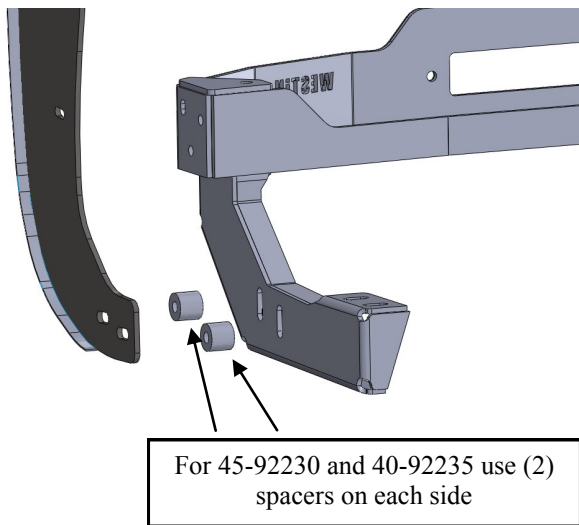

FIG 8
12. If installing the HDX winch tray grille guard, with assistance align the grille guard with the mounting holes located in the lower winch tray brackets and the winch tray. Use the included spacers between the lower mounting brackets and the grille guard. FIG 8. Attach the grille guard to the lower brackets using (2) M12 button head bolts, (4) M12 flat washers, (2) M12 lock washers, and (2) M12 hex nuts, attach the grille guard to the winch tray using (4) M10 button head bolts, (8) M10 flat washers, (4) M10 lock washers, and (4) M10 hex nuts. NOTE: for part # 57-92230/92235 the hardware is stainless steel. Do not fully tighten at this time.